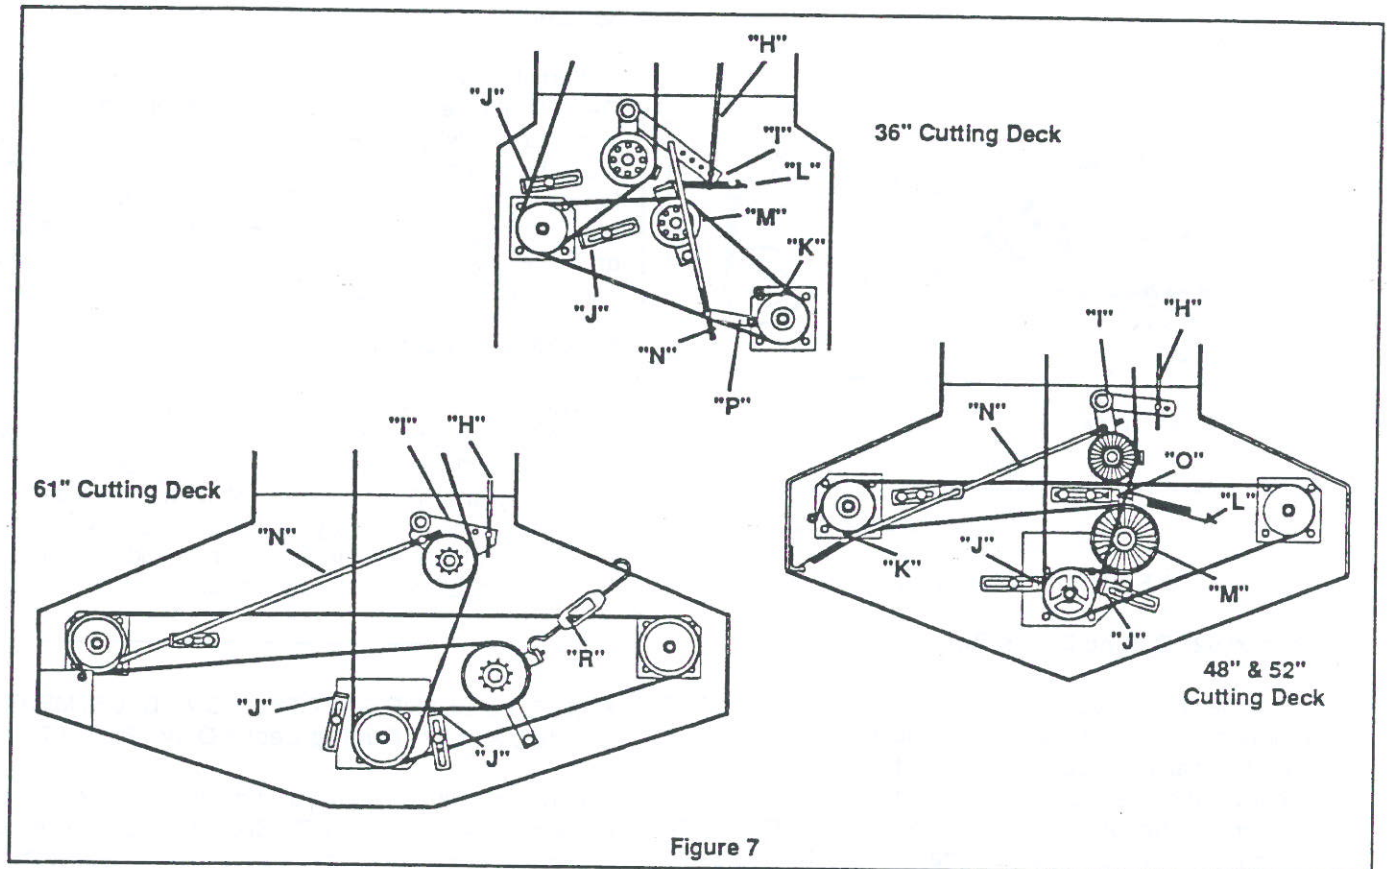

Figure 7
### ENGINE TO BLADE BELT ADJUSTMENT (Figure 7):
With the engine stopped and the spark plug wire removed from the spark plug, place the blade engagement lever "B" (See Operating Controls, Page 8) rearward to the DISENGAGED slot. Referring to the illustration in Figure 7 for your particular cutting deck:
2. Locate the swivel on blade control rod "H" (Figure 7) and remove the hair pin and washer. With the hardware removed, disconnect blade control rod "H" from idler pulley arm "I". Also disconnect brake rod "N" (Figure 7) from the hole in the idler pulley arm "I" (Figure 7).
3. Loosen all four engine to blade belt guides and distance each from belt. Going up to the handle console, push the blade engagement lever forward into the ENGAGED slot. Push the blade idler pulley arm "I" (Figure 7) rearward until the blade to engine pulley belt is tight. Holding the idler
### BLADE BRAKE ADJUSTMENT (Figure 7):
1. Move the blade engagement lever forward while observing the action of the blade brake rod "N" and brake band "K" (Figure 7). As the blade engagement lever reaches a point just above the slot of the DISENGAGED position, the blade control rod "H" should begin to pull idler pulley arm "I" rearward while at the same time disengaging the blade brake band "K" (Figure 7) from around the brake hub. Pushing the blade engagement lever completely forward into the ENGAGED slot should pull the blade brake band "K" (Figure 7) completely away from the blade brake hub and apply the proper tension to engage the engine to blade belt.
2. If adjustment is needed, move the blade engagement lever to the DISENGAGED slot. Remove hair pin and washers from swivel on brake rod "N" (Figure 7). Disconnect brake rod "N" from idler pulley arm "I" (Figure 7). With the brake band tight around the belt pulley hub, rotate the swivel on brake rod until it becomes centered in the slot on the idler arm. Reconnect brake rod "N" to idler pulley arm "I".
1. With the blade engagement lever placed in the DISENGAGED slot, remove hair pin and washers from the swivel on brake rod "N" (Figure 7). Disconnect brake rod "N" from brake band arm "P" (Figure 7). Pull brake band arm "P" forward until brake band "K" is tight around brake pulley hub. Holding brake band arm "P" in position, rotate swivel on brake rod "N" until it will slide into its hole on the brake band arm. Reconnect brake rod "N" to brake band arm "P".
1. With the blade engagement lever placed in the , DISENGAGED slot, remove hair pin and washers from swivel on brake rod "N" (Figure 7). Disconnect brake rod "N" from idler pulley arm "I" (Figure 7). With the brake band held tight around the belt pulley hub, rotate the swivel on brake rod until it aligns with the hole on the idler pulley arm. Reconnect brake rod "N" to idler pulley arm "I".
### BLADE TO BLADE BELT TENSION ADJUSTMENT - 36", 48", and 52" Cutting Decks Only (Figure 7):
The blade belt is self-adjusting by means of a spring tensioned idler "M" (Figure 7). Should the spring ever reach a point that it no longer provides sufficient tension to the idler pulley:
2. In addition to the spring on 48" and 52" cutting decks, a special vibration dampening bumper "O" (Figure 7) is provided to dampen the movements of the idler pulley when the blades are engaged. After moving the spring, loosen the bumper bracket mounting bolts (2) and move the dampening bumper bracket forward so that it just touches the dampening arm of the idler pulley. Tighten the bolts to secure bracket in place.
The blade belt is adjusted by means of a turnbuckle "R" (Figure 7). As the blade belt seats and tension slackens loosen jam nut and rotate turnbuckle "R" (Figure 7) until the proper belt tension is achieved. **Important:** Do not over tension belt. Over tensioning will cause severe belt wear and bearing failure.